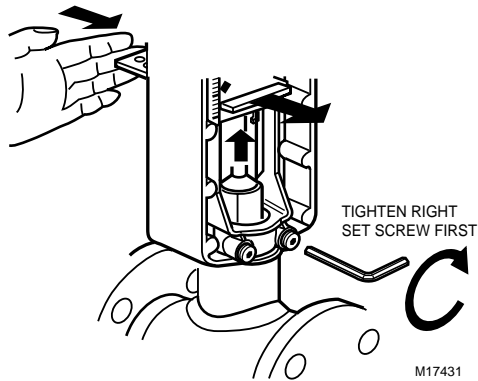

Fig. 2. Attaching actuator to valve.
1. Place the actuator on the valve with the U-bolt around the valve collar. See Fig. 2.
*When tightening the set screws, first tighten the right set screw. See Fig. 2.*
3. Push aside the stem button retaining clip and hold. See Fig. 2.